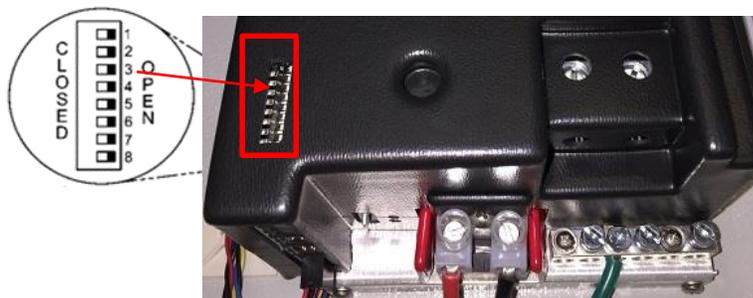

Figure 5
Within a ZigBee Mesh network, a Gateway Module can interface with EVSEs containing ZigBee modules. When setting up a network for the first time, you will need to add the EVSEs one at a time. These EVSEs will already have been installed at the site. Before you begin, make sure the covers of the EVSEs have been removed as you will need access to their GFI dip switches. See that EVSE's installation guide for those instructions. Refer to **Figure 5** for the EVSE's GFI dip switch location.
3. Slide that EVSE's GFI Dip Switch number 3 to **Closed** to put it into ZigBee Setup Mode (**Figure 5**). After a few moments, all the lights on the Control Module will begin flashing, letting you know the EVSE is now in ZigBee Setup Mode.
3. Slide that EVSE's GFI Dip Switch number 3 to **Closed** to put it into ZigBee Setup Mode (**Figure 5**). After a few moments, all the lights on the Control Module will begin flashing, letting you know the EVSE is now in ZigBee Setup Mode (**Figure 6**).